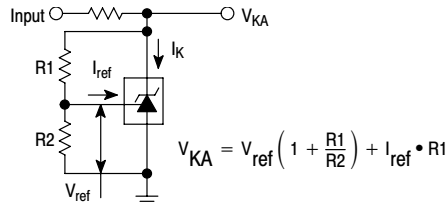

Figure 2. Test Circuit for $V_{KA} > V_{ref}$
- The dynamic impedance Z_{KA} is defined as: |Z_{KA}| = $\frac{\Delta V_{KA}}{\Delta I_K}$. When the device is programmed with two external resistors, R1 and R2, (refer to Figure 2) the total dynamic impedance of the circuit is defined as: |Z_{KA}'| ≈ |Z_{KA}| $\left(1 + \frac{R1}{R2} \right)$
6. The dynamic impedance Z_{KA} is defined as $|Z_{KA}| = \frac{\Delta V_{KA}}{\Delta I_K}$ When the device is programmed with two external resistors, R1 and R2, (refer to Figure 2) the total dynamic impedance of the circuit is defined as: $|Z_{KA}'| \approx |Z_{KA}| \left(1 + \frac{R1}{R2} \right)$